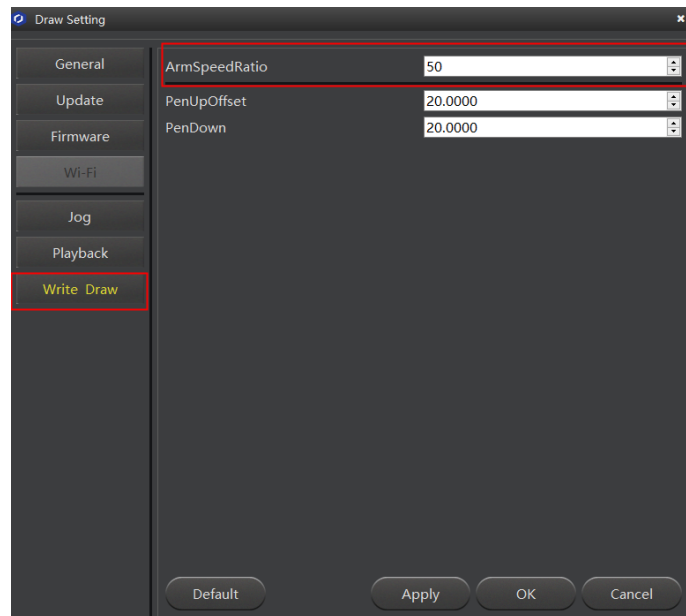

Figure 5.50 Setting the parameters of the Write & Draw function
2. Click **Write & Draw** to set **ArmSpeedRatio** (%), **PenUpOffset** (mm), **PenDown** (mm), as shown in Figure 5.50.